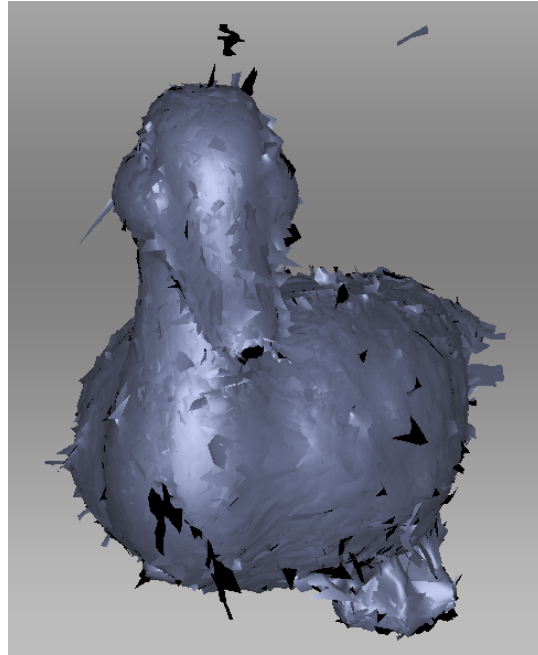

Figure 132: Alignment result.
4. Click *Align...* to run the alignment with your specified restrictions (Figure 132 shows example results). If you are dissatisfied with the alignment results, click ↶ and specify additional point sets, or reposition the current sets. To redo an operation that you have undone, click ↷.